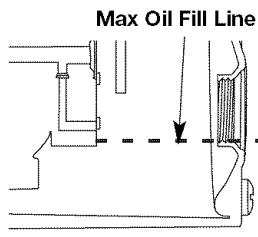

Fig. 23
6. Look into the oil fill hole (use a flashlight if needed). The oil should be just touching the innermost thread (Fig. 23).
7. If the oil level is not touching the innermost thread on the oil fill hole, add a small amount of oil to the oil fill hole and recheck (Fig. 23). Repeat this procedure until the oil level reaches the innermost thread on the oil fill hole.
measure the correct amount of oil. The top of the label on the bottle measures approximately 3.04 ounces (90 ml) (Fig. 26). Check the level. See Checking the Oil Level. If the level is low, add a small amount of oil and recheck. Do not overfill (Fig. 23).